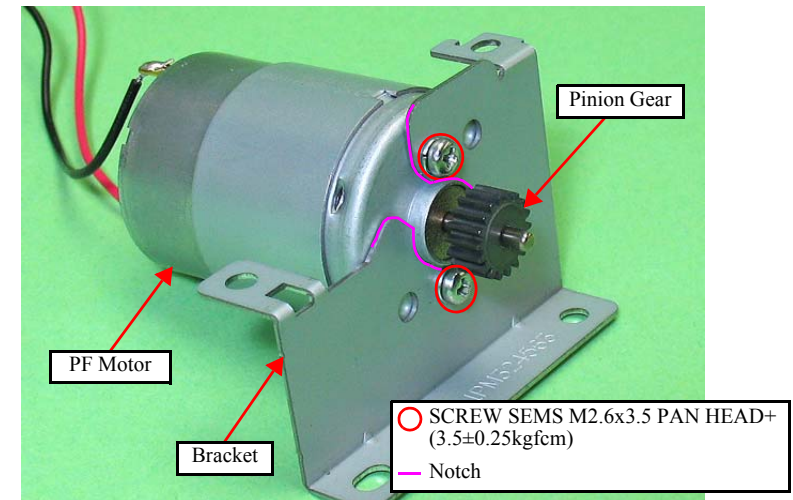

Figure 4-70. Removing the PF Motor (4)
- When installing the PF Motor, insert the black cable over the red one. (See Fig.4-70.)